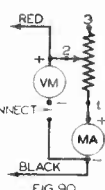

FIG. 90
3. Restore the connection on the milliammeter and temporarily remove the wire from the minus terminal of the other meter so you will have the circuit shown in Fig. 90. Only the second meter is now used for testing voltages. Again hold the test prods on terminals B— and P and note the reading on the single voltmeter now in use.